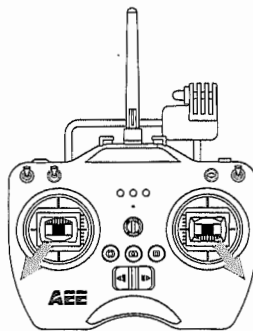

Figure 18
**Method one (Figure 18):** After the quadcopter lands, toggle the throttle joystick to the lowest position and then perform CSC, the motors will immediately stop. Release both joysticks after the motors stop.